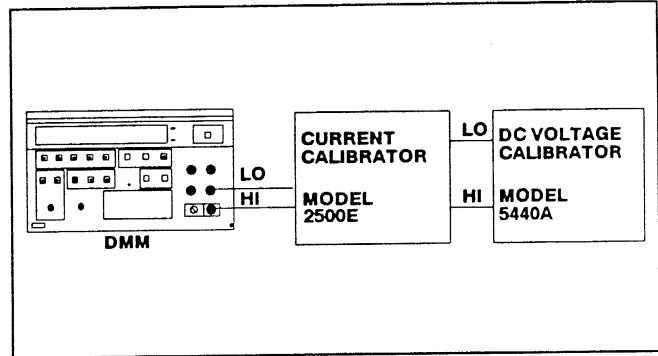

Fig. 2-4. Connections for DC Current Check.
- b. Connect the DMM to the current calibrator and the DC voltage calibrator as shown in Fig. 2-4.